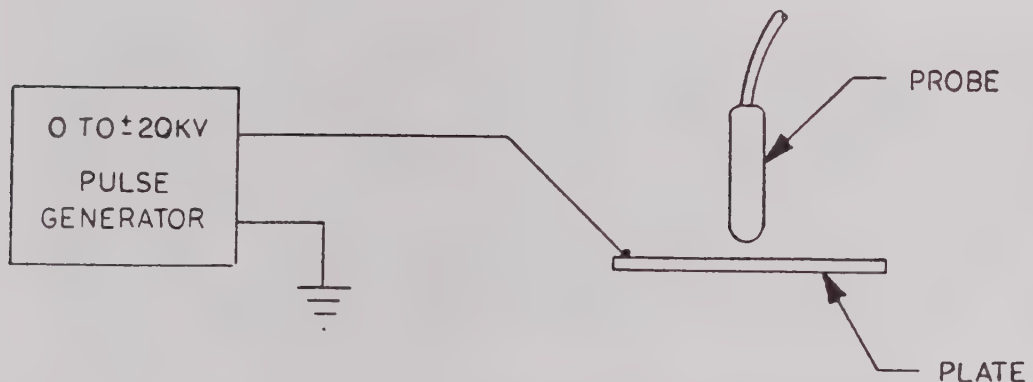

Fig 4-1
- a.) Connect a high voltage pulse generator (up to 20kV) to a plate at the same probe-to-surface spacing to be utilized (preferably the same surface if practicable) as shown in Fig. 4-1